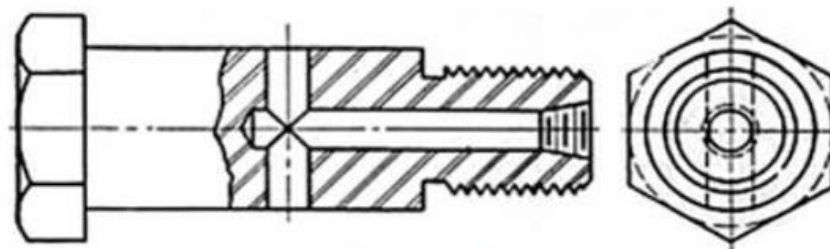

Figure 14
- **Fig. 14 and 15** illustrate the advantage of the broken-out section, which eliminates the need for excessive section lining.